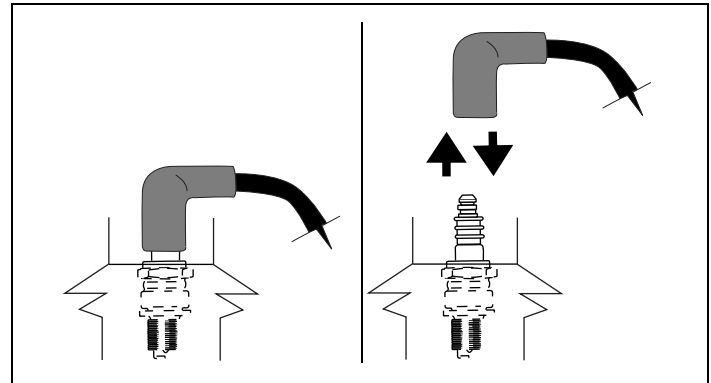

Figure 24. Disconnecting/Connecting Spark Plug
1. Disconnect spark plug wire and keep it away from spark plug. See Figures 24 and 25.